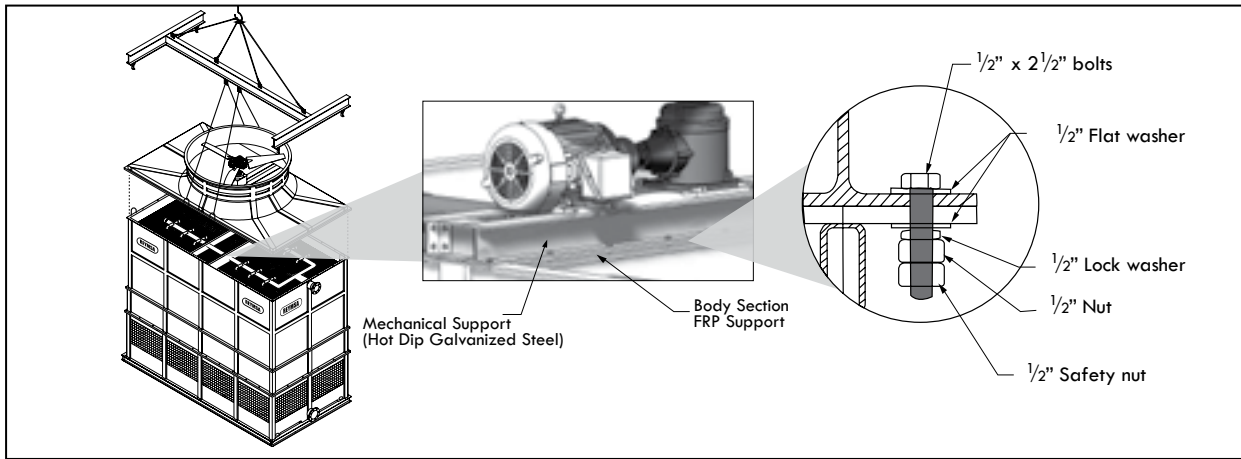

Figure A-51: Fan Deck assembly for an RTG and RTGTC model.
- N. RTG and RTGTC models have a section called "Fan Deck" which is at the top of the Tower. The Fan Deck with duct contains a gear drive, a fan and a motor mounted on a structural Hot Dip Galvanized Steel support with an "I" shape configuration, and a corrosion resistant safety screen mesh. (See Figure A-51).
- S. After installing the fan deck section, access to inside of the fan deck section and bolt down the Galvanized Steel mechanical support to the Fiberglass (FRP) support (see Figure A-51). The Galvanized Steel mechanical support is built in an "I" shaped configuration and this mechanical support must be bolted to the Fiberglass (FRP) support in the upper section on which it sets. The bolts must be installed on the full perimeter of the "I" shaped mechanical support. Access to perform this assembly inside the tower through the fan guard access door.